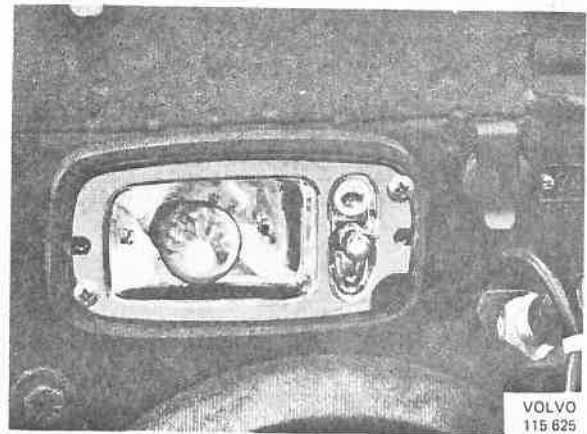

Fig. 35-8. Bulbs
2. Remove the defective bulb by pushing it inwards and turning it (bayonet fitting), Fig. 35-8.